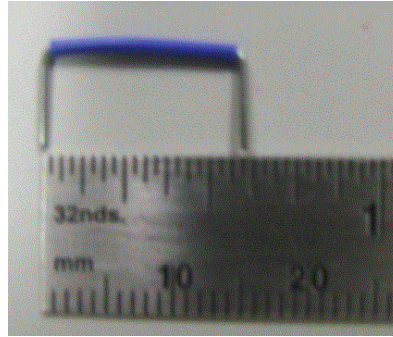

Figure 3-4: Standard blue wire
2.3.1 You are going to measure the resistance of a wire. Select a standard **blue** wire (see Figure 3-4) from your kit and measure its resistance with the ohmmeter. This will be on the order of 100mΩ. Call the ohmmeter measurement of the resistor R_{2w} .